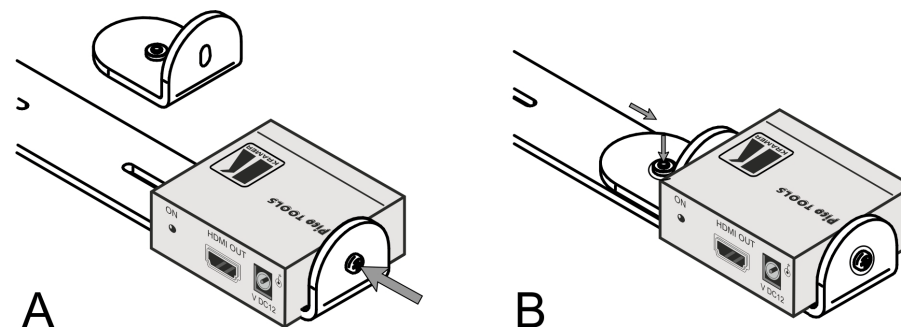

Figure 2: Installing a Pico TOOL
3. Place the tool (for example, a Pico TOOLS®) on the Tool Arm and attach the Tool Mounting Bracket to the side of the TOOL with the M3x8 screw (Figure 2 **A**).
4. Attach the Adjustable Bracket to the other side of the TOOL with the second M3x8 screw (Figure 2 **B**).
5. Use the third M3x8 screw to fix the adjustable bracket to the appropriate slot (for Pico TOOLS®, TOOLS™ or MegaTOOLS®, respectively) (Figure 2 **B**).